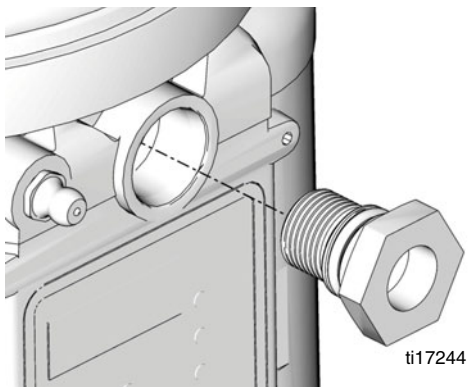

FIG. 3
4. Remove G3 pump outlet plug from unused pump outlet (FIG. 3).